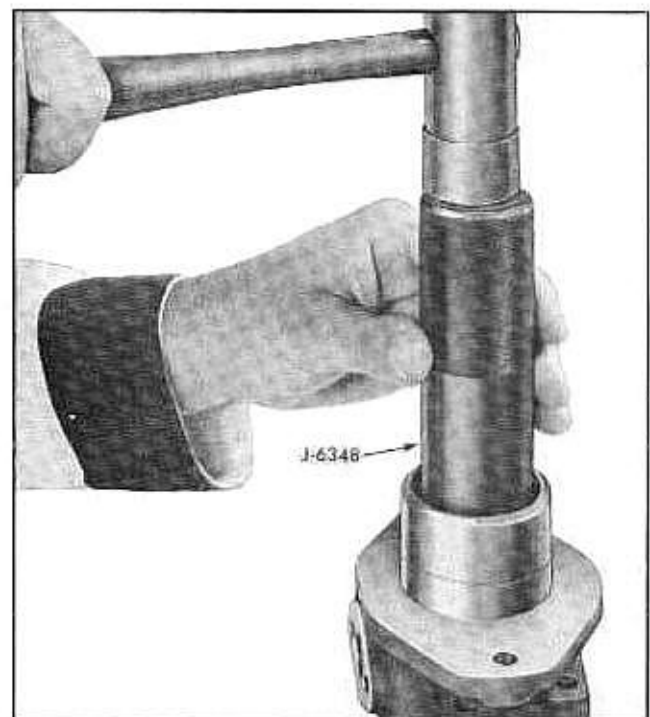

Fig. 9-84 Driving Shaft Seal Into Pump Body
4. Install shaft seal in body using tool J-6348 (Fig. 9-84). Install seal with the word "outside" toward front of pump.